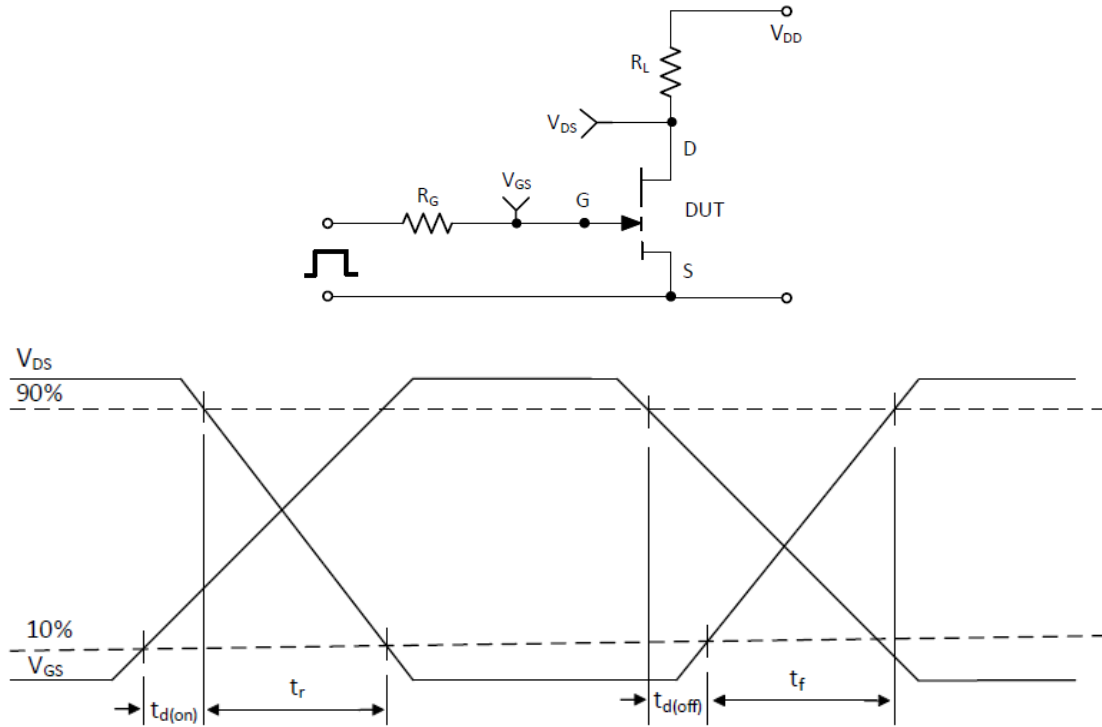

Figure 16: Switching time test circuit and waveforms
(5) See Figure 16 for switching time test circuit diagram and waveform definitions.